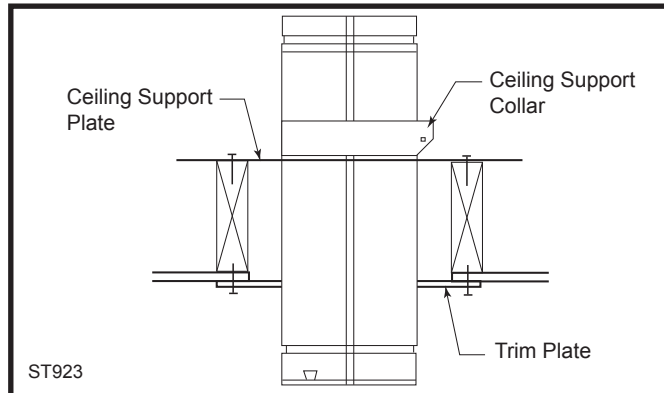

Fig. 35 Ceiling support.
it by screwing the support plate to the top of the properly framed ceiling joist opening, using screws provided. A round trim plate (TP) is attached to the ceiling, using screws, to provide a finished appearance once installed. (Fig. 35)